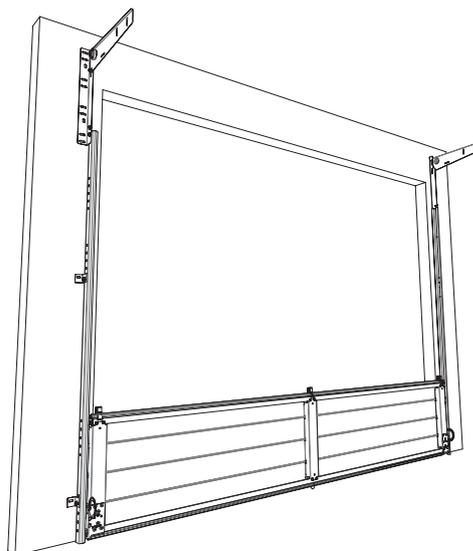

Fig: 3.2.1
- Carefully lower the wheels of the bottom panel into the tracks and lower so the panel is sitting level in the door opening. Fig 3.2.1.